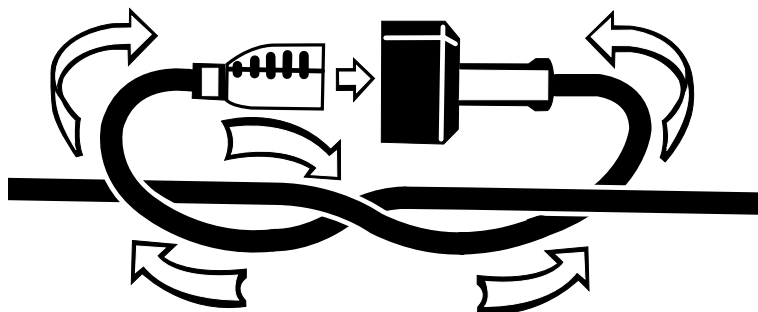

Fig. 1
- Extension Cord – To reduce the risk of disconnection of appliance cord from the extension cord during operating, it is possible to tie the extension cord and power cord in a knot to prevent them from becoming disconnected during use. Make the knot as shown in figure 1, then connect the plug end of the power cord into the receptacle end of the extension cord. This method can also be used to tie two extension cords together.